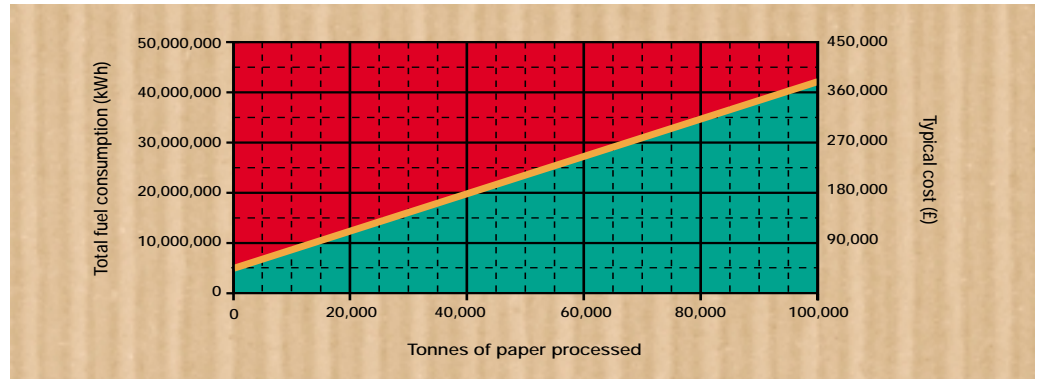

Fig 4 Fuel consumption relates mainly to the efficiency of the corrugating process. Use this chart to see how you compare with your competitors
The information is contained in Table 1 and is illustrated in Figs 4, 5 and 6. If your performance indicates higher specific fuel and electricity consumption, or your energy costs are higher than the average, then opportunities exist to improve energy efficiency and reduce your costs.
Figs 4, 5 and 6 provide specific fuel, electricity and total energy consumption and cost information derived from the industry. This information will allow you to see at a glance how your energy performance compares with that of the other companies in your industry sector.
Use Figs 4, 5 and 6 to plot your own performance in processing and converting. If your energy consumption falls within the green area then you use less energy than the industry average. If it lies in the red area then you are probably using more than you need. Use the 'cost' axis to estimate how much your business could save through even a modest improvement in energy performance.
- Plot and compare your annual energy consumption using Figs 4, 5 and 6.
Determine your energy costs by applying the appropriate energy prices to the fuel and electricity consumed during the period. The prices and total costs can be compared using Table 1 and Figs 4, 5 and 6.